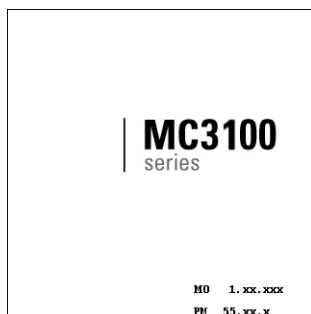

Figure 1-13 *Splash Screen (Cold Boot)*
1. Simultaneously press and then release the **1**, **9** and **Power** keys. Do not hold down any other keys or buttons. As the mobile computer initializes, the splash window, Figure 1-13, appears.